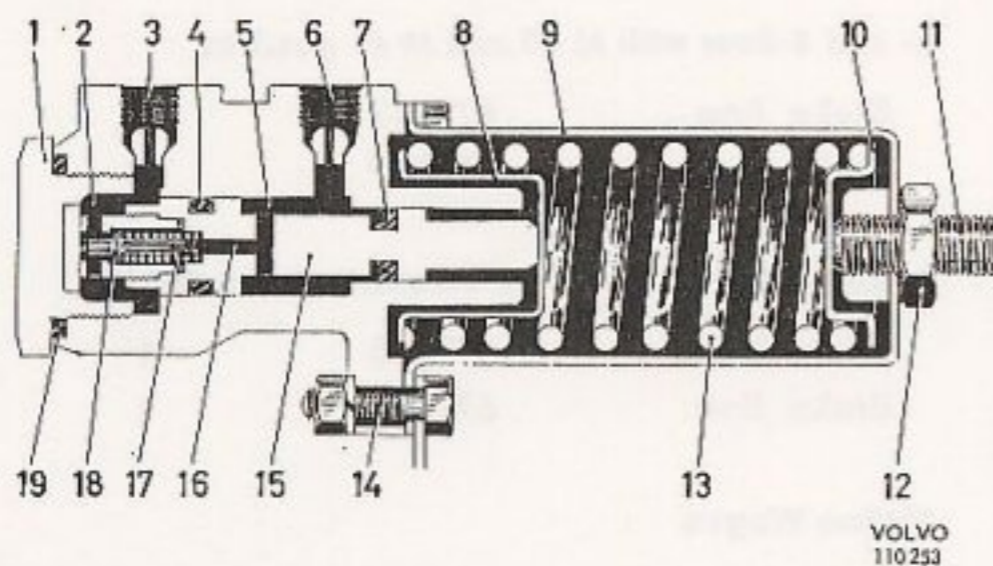
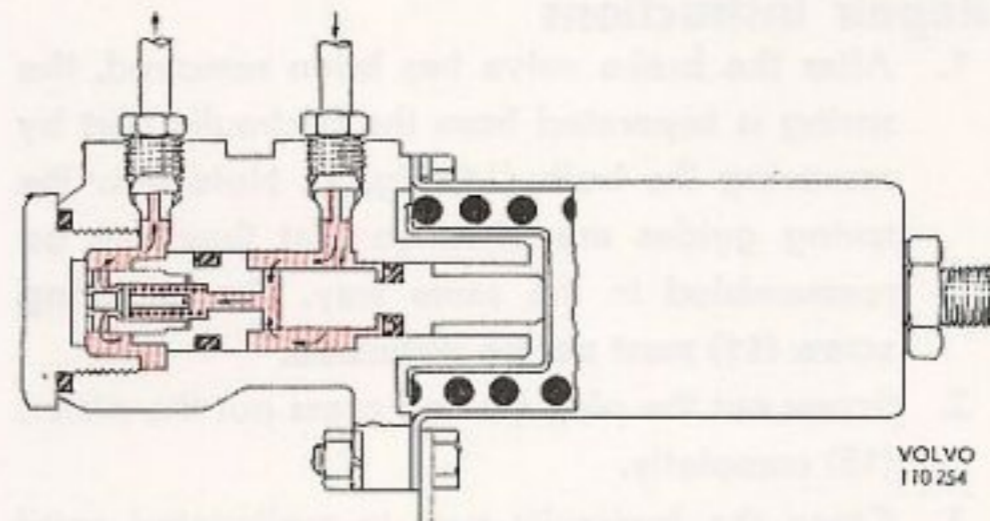

Fig. 1. Construction.
Fig. 2. Brake application (pressure below 30 kg/cm² = 430 lb/sq.in.)
When the footbrakes are applied, the pressure from the master cylinder is transmitted through connection (6) Fig. 1. The pressure then proceeds through the cylinder (5), the counterbore (16), past the open valve (18) to cylinder (2) and then on through connection (3) to the rear wheel cylinders, see Fig. 2. The hydraulic pressure per unit surface is equal on the different parts of the piston (15), but since its pressure surface is larger in the cylinder (2) than in the cylinder (5), the force developed will move the piston to the right on the